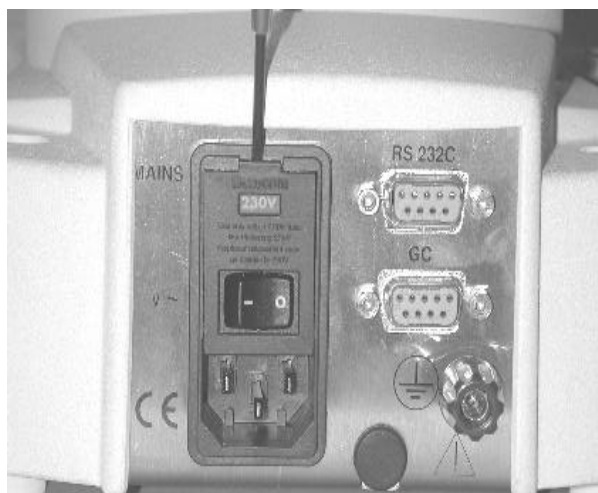

Figure 8A
1. Open fuse compartment with a screwdriver, as shown in figure 8A.